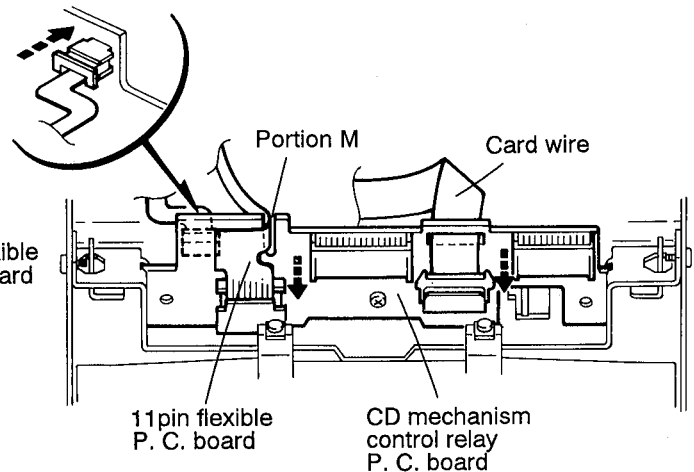

Fig. 4-33
11. Connect the 4 pin flexible P.C. board to the connector on the the CD control relay P.C. board(See Fig. 4-33).
12. Pass the 11 pin flexible P.C. board through the groove at the portion M of the CD control relay P.C. board and connect it to the connector (See Fig. 4-33).
13. Connect the card wire to the connector (See Fig. 4-33).